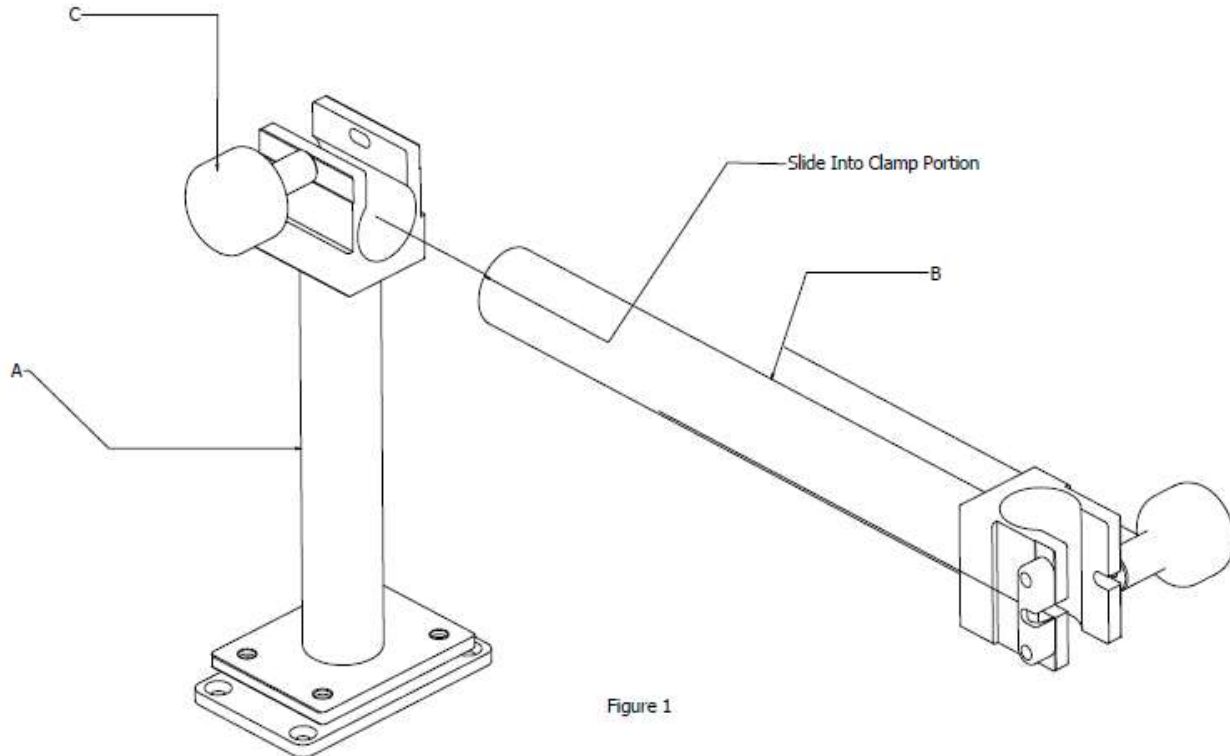

Figure 1
Unbox Vertical Riser (A) and Horizontal Support (B). Loosen Clamp Knob (C) in Figure 1 below. Slide Horizontal Support (B) into the clamp portion of Vertical Riser (A) and adjust arm to clear gunnel. Tighten Clamp Knob (C) firmly to secure Horizontal Support (B) in place. Caution! Do not overtighten Clamp knob (C) when the Horizontal Support tube is not in place.